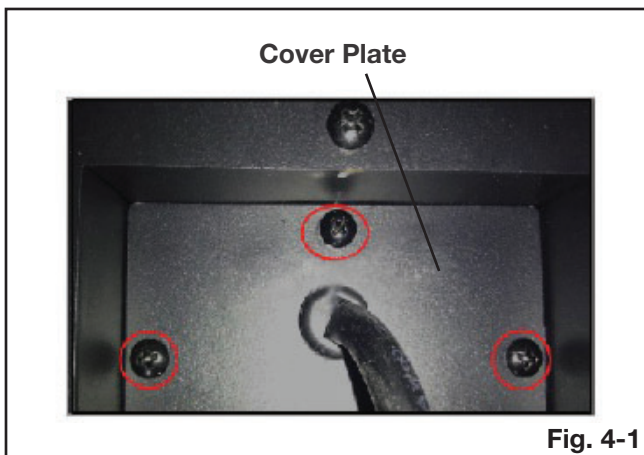

Fig. 4-1
1. Remove the cover plate from the right side bottom of the appliance by removing the 3 screws (**Fig. 4-1**).